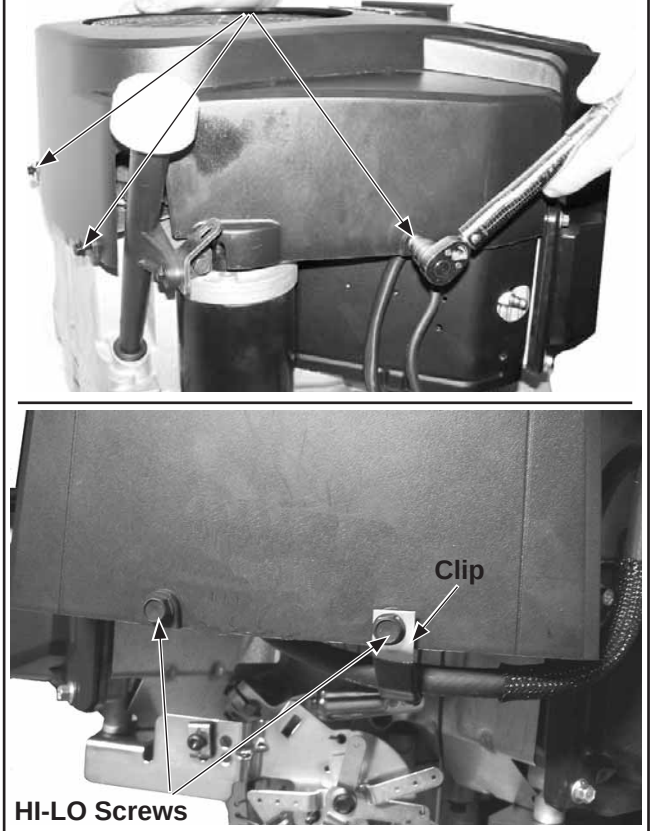

Figure 10-80. Blower Housing Mounting Details.
1. Install the blower housing with the access door onto the engine. Start all the mounting screws. The two HI-LO thread screws are installed in the front securing the blower housing to the air cleaner base. Make sure the wire harness and spark plug leads exit out through the appropriate openings in the shrouding. Attach any fuel line clamps used. See Figure 10-80.